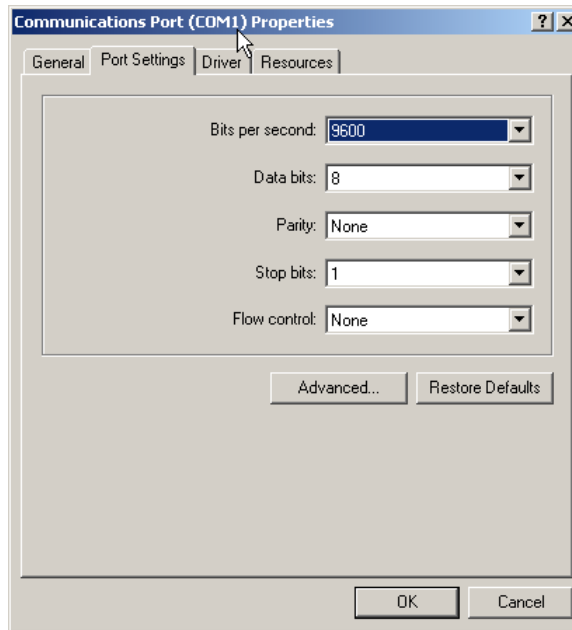

Figure C-5: Communications Port Properties dialog box
- 4 Press the "+" next to Ports and double click the Communications Port to open the Communications Port Properties dialog box (Figure C-5).